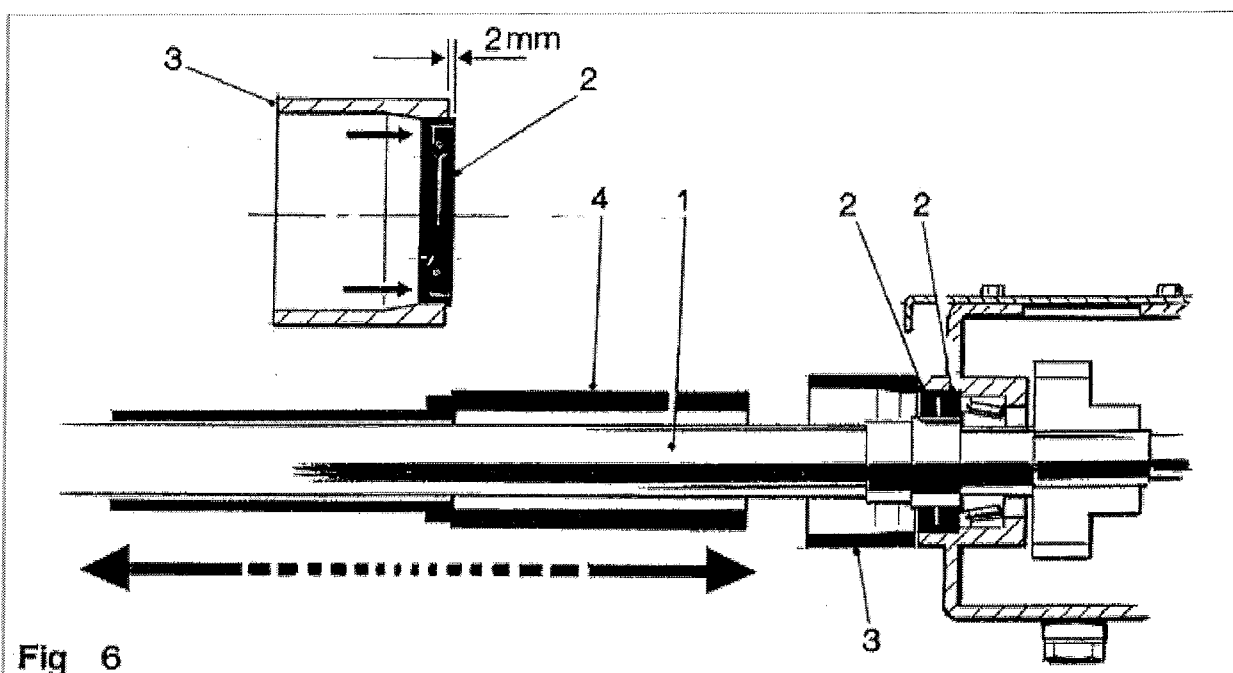

Fig 6
The cleaner unit roller shafts (item 1, fig 6) are each fitted with two oil seals (item 2, fig 6) at the gear box end (one behind the other). The seals prevent oil from escaping the gear box housing and also prevent dirt from entering.
Depending on conditions, the oil seals (item 2, fig 6) may eventually become worn or damaged and begin to leak. At this point the oil seals will need to be replaced as follows:-
1. The rollers are retained on the steel roller shafts (item 1, fig 6) by a single bolt (item 1, fig 3) at the discharge end, and located on a spigot at the gear box end. Remove the bolt and slide the roller off the discharge end of the shaft. The rollers are a close fit and may need to be prised off in some cases.
2. Prise out the damaged oil seals, 2 off (item 2, fig 6) from the gear housing taking care not to scratch the seal apertures. Remove any dirt deposits.
2. Push one of the seals into the compression ring (item 3, fig 6) so that the seals protrudes 1-2 mm beyond the ring face (see Fig 6).
4. Press the seal firmly home by sliding the hammer (item 4, fig 6) along the roller shaft (item 1, fig 6).